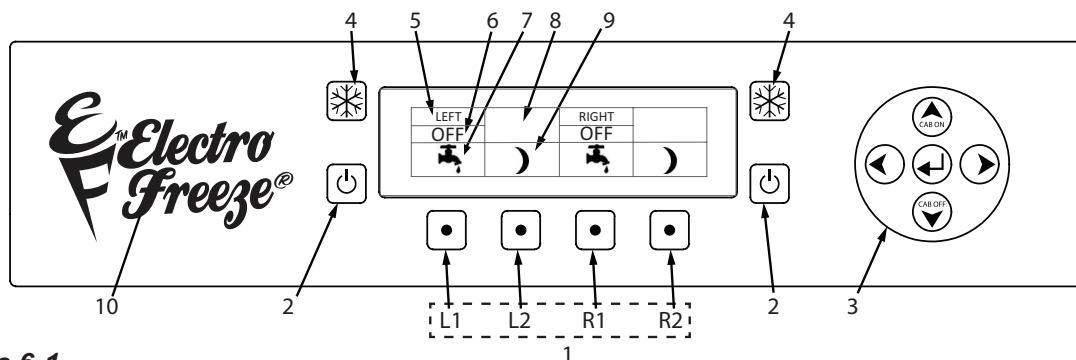

Figure 6-1
To Enter the Operator Menu, push and hold the hidden key (11) under the F for 3 seconds (figure 6-1).